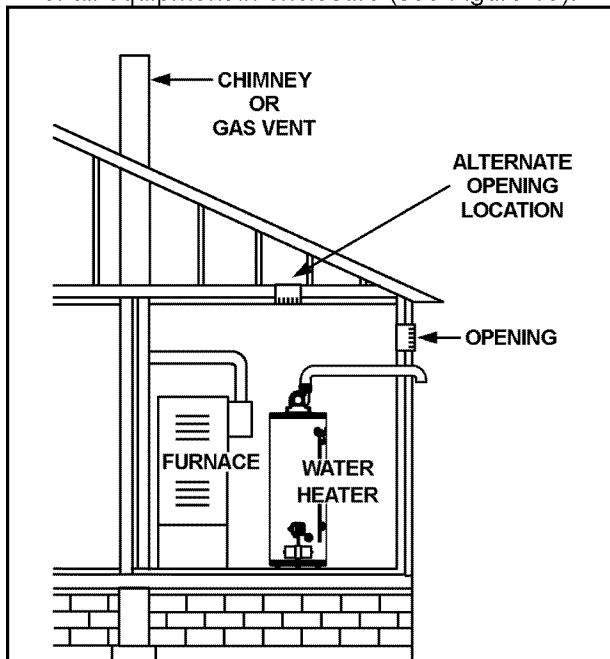

Figure 19
5. Alternatively a single permanent opening may be used when communicating directly with the outdoors, or with spaces that freely communicate with the outdoors. The opening shall have a minimum free area of 1 square inch per 3,000 Btu/hr (7.3cm2/kW) of total input rating of all equipment in enclosure (see Figure 19).